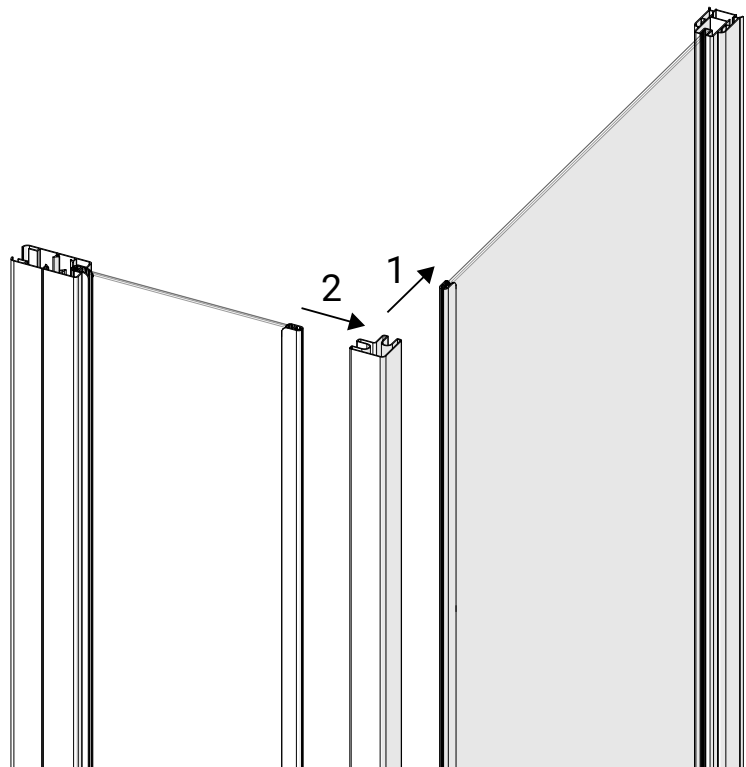

Fig. 2.3
- II. To install a corner enabling panel, remove the round extrusion from the side panel and push the corner extrusion on in its place. Place the rest of the corner enabling panel into the corner extrusion. *Figure 2.3*